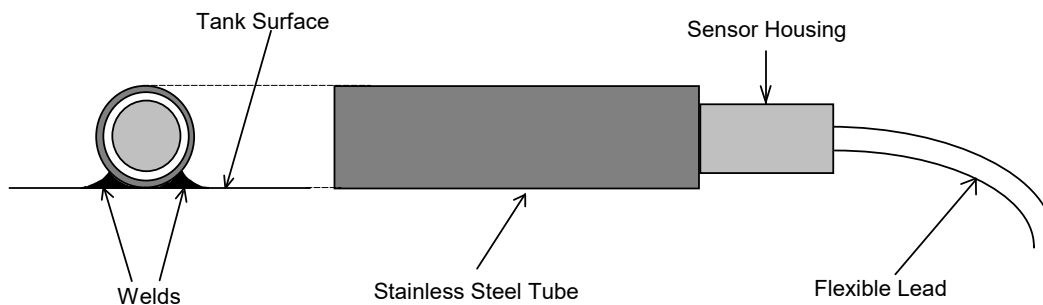

Fig 2
- ii) Alternatively, the sensor housing may be fixed to the outside surface of the tank by inserting it into a stainless steel tube of suitable diameter which has been pre-welded to the tank surface (see Fig.2 below). The tube should be of such a size that the sensor housing can easily slide into it without the use of undue force and then be held in position by the use of a 'setting' high thermal conductivity sealant which is suitable for use in the environment of the hazardous zone.